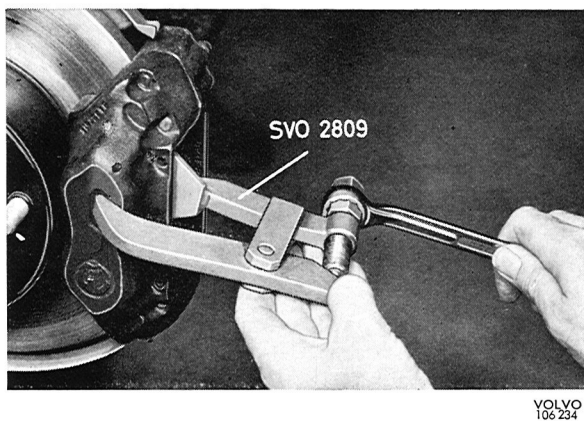

Fig. 5-16. Pushing in piston
6. To provide room for the new brake pads, press the pistons into the cylinders. The pistons can be pressed in evenly and without risk with tool 2809 according to Fig. 5-16. If done properly, the pistons can be pressed in perhaps more rapidly with another tool in the same way but, for example, if a screwdriver is used and wrongly applied, the pad, rubber seal and piston may be damaged. Note that when pressing in the pistons, the fluid brake level in the container rises so that the brake fluid can spurt out.